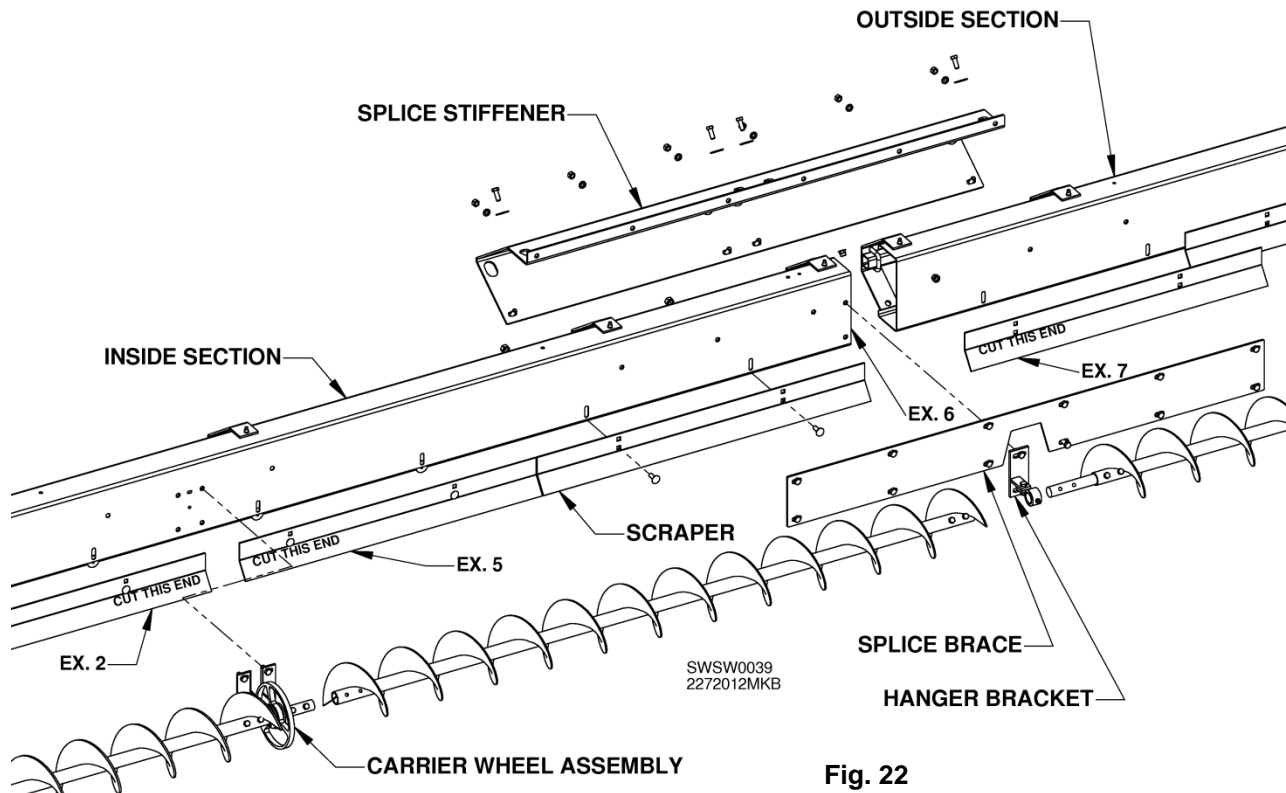

Fig. 22
- 1.b. Start at splice end of **inside section** of backboard. See Fig. 22, EX. 6. Place a scraper's short side flat against backboard. See Fig. 20. Align scraper holes with slots in backboard. See Fig. 21, EX. 3. Next scraper section is shorter so that it does not interfere with carrier wheel. This scraper section (Fig. 22, EX. 5) needs to be cut to a length of 32-1/2". Align holes in scraper with slots in backboard and attach. Next scraper section (Fig. 22, EX. 2) needs to be cut to a length of 35-5/8". Attach last scraper section on inside backboard section using same method as 1.a.
NOTE: When cutting scraper sections, be sure to cut proper end, as shown in Fig. 22.
- 2.a. First scraper on **outside section** (Fig. 22, EX. 7) needs to be cut to a length of 32-1/2". Place it against outside backboard section as shown in Fig. 22, EX. 7. Align scraper so holes line up with slots in backboard. Attach scraper to backboard using 3/8 x 1" carriage bolts, with heads of bolts on auger side of backboard. See Fig. 20. Use flat washers, lock washers and nuts on backside of backboard. Adjust scraper sections so bottoms are just below auger as shown in Fig. 20. Tighten bolts.
- b. Attach outside section of backboard to inside section using **splice brace**. See Fig. 22. After brace has been attached to both inside and outside sections of backboard, attach splice stiffener to backboard and splice brace. See Fig. 22.